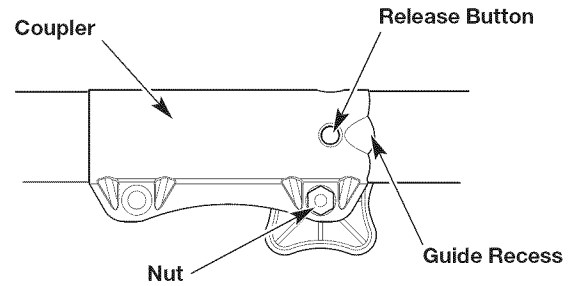

Fig. 4
NOTE: Aligning the release button with the guide recess will help installation (Fig. 4).
NOTE: Do not tighten the nut (Fig. 4).
2. Press and hold the release button (Fig. 4).